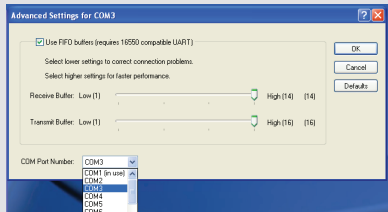

Figure 5.6
4. Choose an alternate COM Port Number from the menu list (Figure 5.6).